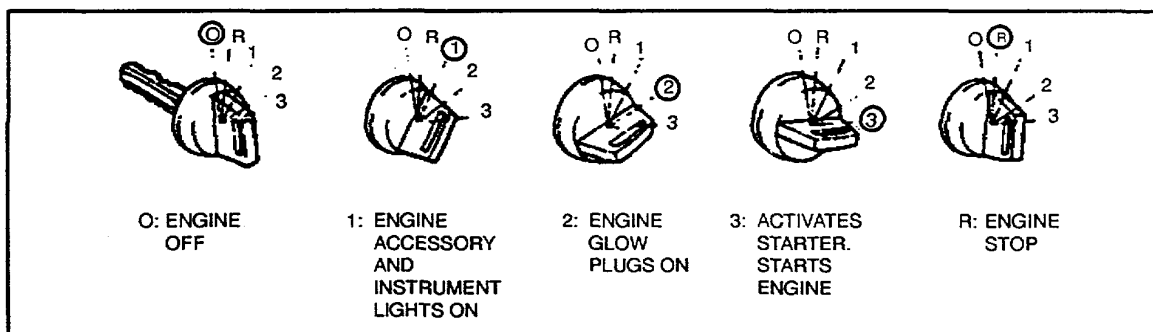

Figure 2-5. Ignition/Electrical Switch Operating Positions
**2-10.13 Ignition/electrical switch.** This switch requires a key to operate. Switch has five positions (Figure 2-5):
- c. Insert key into ignition switch and turn clockwise from OFF to position 1. This turns on engine electrical accessories (Figure 2-5).